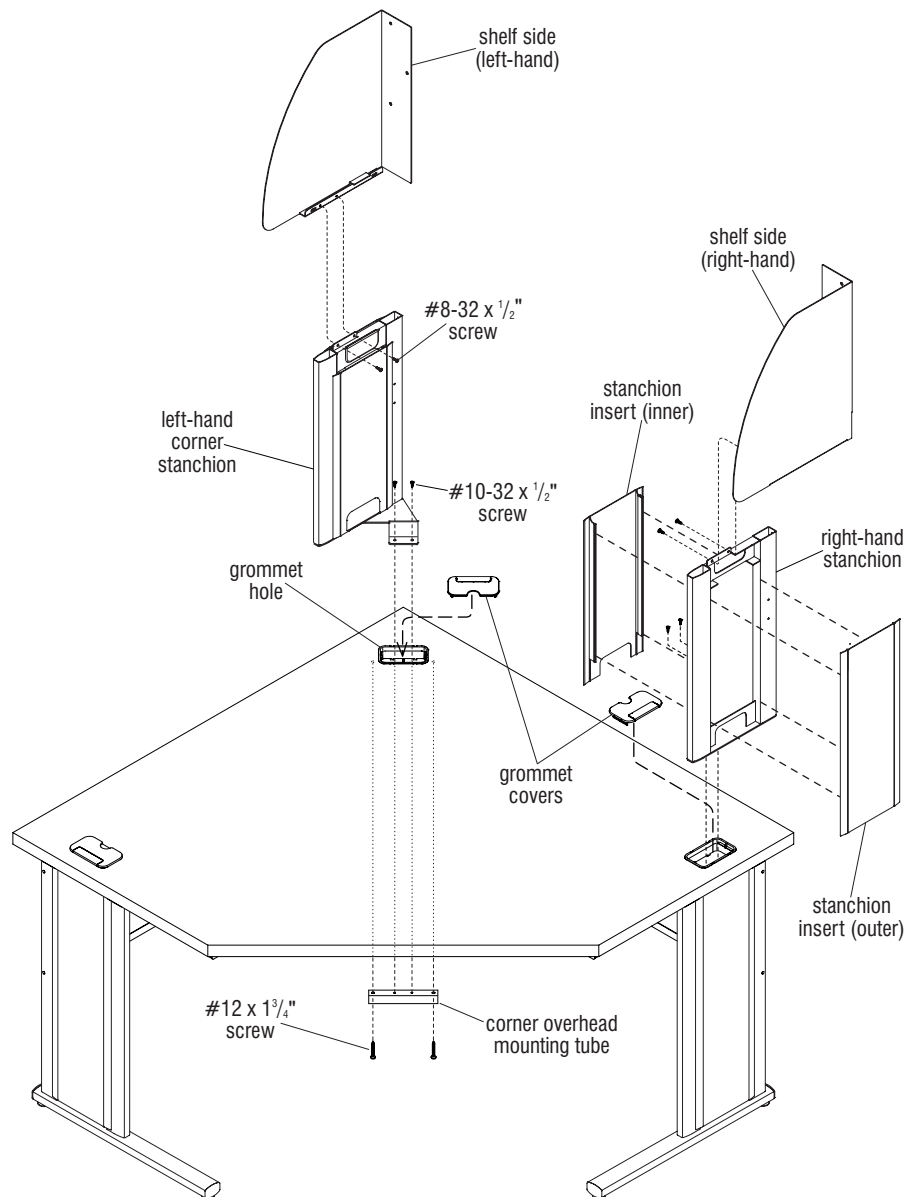

Figure 19
1. Begin by removing grommet covers from the back corner, and back side at the top of the corner desk where the overhead cabinet will install (Figure 19).
2. At the rear corner, from underneath the worksurface, position the corner overhead mounting tube as illustrated and align to pre-drilled holes. Install using two #12 x 1³/₄" screws (Figure 19).
3. Reference Figure 19 below to identify the corner stanchion (left-hand) and the right-hand stanchion, as well as the left- and right-hand cabinet sides (Figure 19).
4. Position the corner stanchion (left-hand) as illustrated such that the lower mounting bracket of the stanchion inserts into the grommet hole. Align the mounting holes in the bracket with the holes in the installed corner overhead mounting tube. Secure stanchion bracket to corner overhead mounting tube using two #10-32 x 1/2" screws (Figure 19).
5. Position the right-hand stanchion with the bracket through the grommet hole, aligning the mounting holes in the bracket with the mounting holes in the top of the right-hand leg. Secure bracket to leg using two #10-32 x 1/2" screws (Figure 19).
6. Orient the right- and left-hand cabinet sides as illustrated, then nest them into the tops of the stanchions and align the mounting holes. Secure from the inside using two #8-32 x 1/2" screws at each stanchion side (Figure 19).